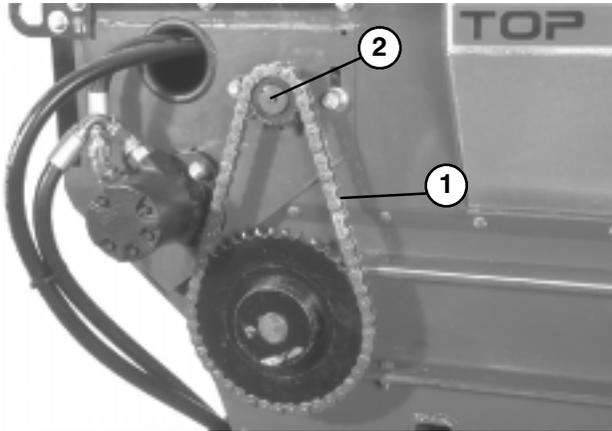

Figure 19
2. Loosen bolts and nuts securing motor and sprocket assembly to the main frame (Fig. 19).